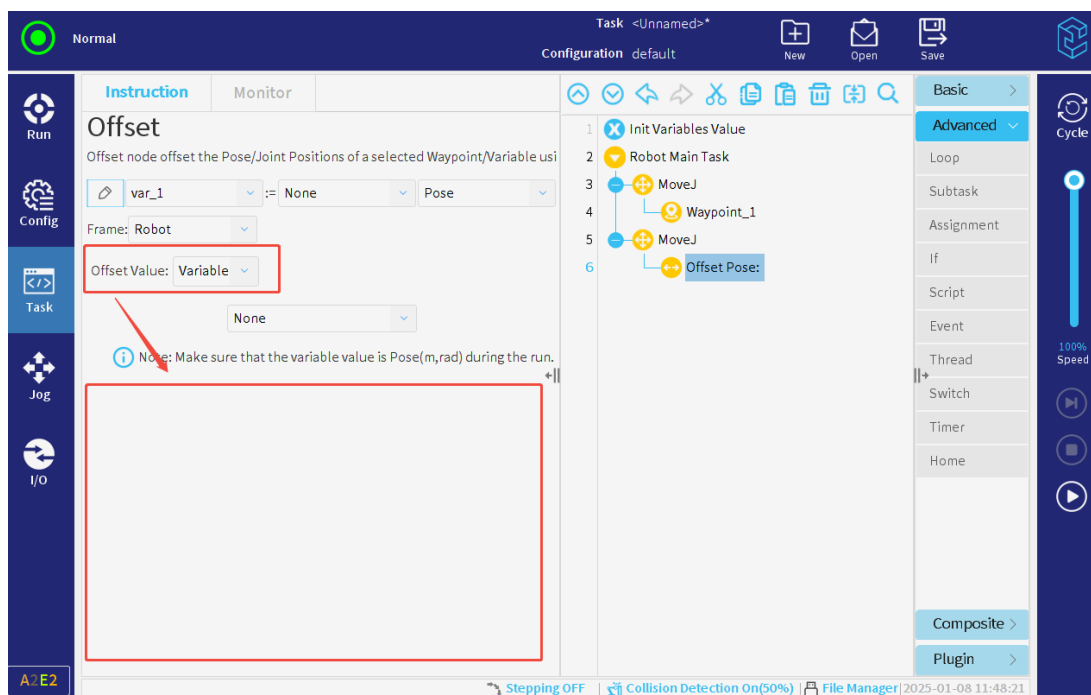

Figure 3-120 : Data Display Interface when Offset Value is A Task Variable
- Similarly, if the offset value is a task variable, since the data is not assigned a value when the task is not running, and the variable may change during runtime, the data is not be displayed when the offset value is a task variable, as presented in **Figure 3-120**.
Therefore, the data before and after the offset is still not displayed during the running of the tool coordinate system, just like in **Figure 3-120**.